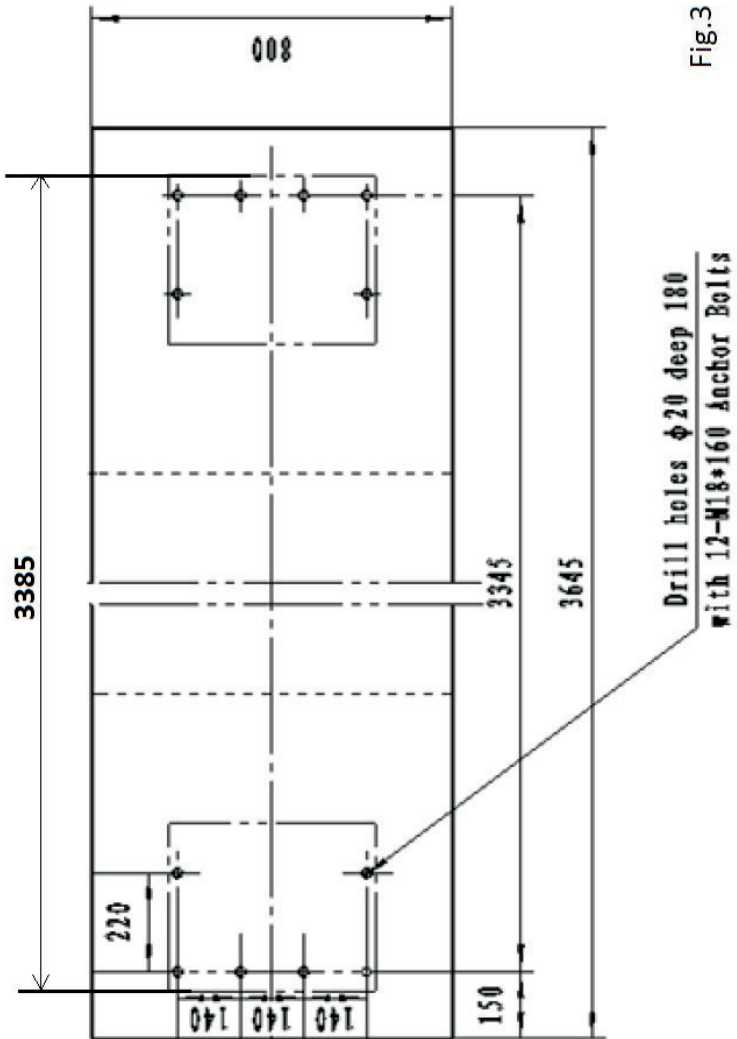

Fig.3
4. Both lower pulleys have a straight side, make sure it is facing down (fig.3), then pass the steel cable through.